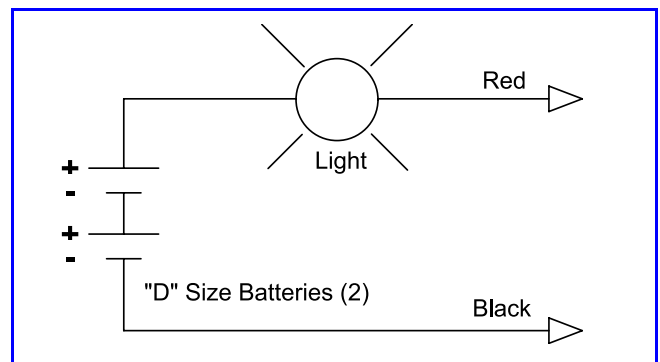

Figure 19 Checking SCR on Test Fixture
2. Build test fixture as illustrated in **Figure 19**.